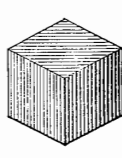

Fig. 68
72. A *Cube* is a prism of which the bases and sides are squares. It therefore has six equal surfaces. Fig. 68.